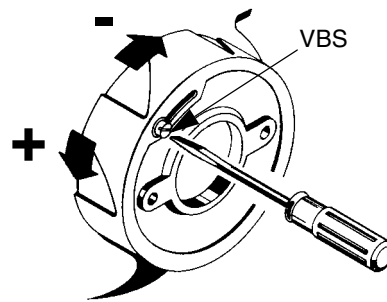

Fig. 23
- 13 Checking the combustion values, adjust the air flow rate acting on the **VSB** screw (Fig. 23); screw to decrease the flow rate and unscrew to increase it.